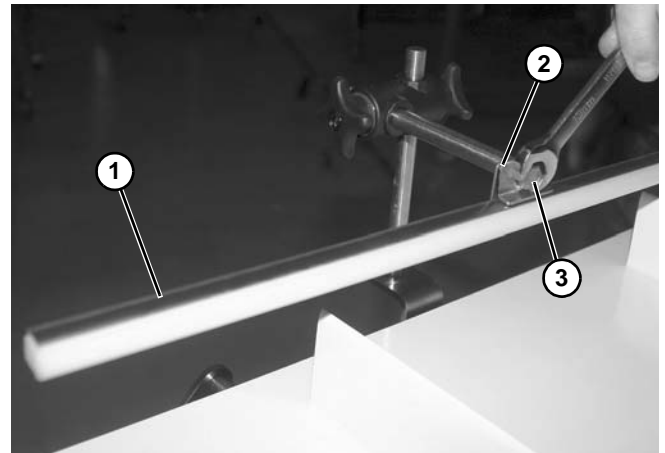

Figure 46
3. Install guide rail (**Figure 46, item 1**) onto guide brackets (**Figure 46, item 2**). Tighten screw (**Figure 46, item 3**) to secure.